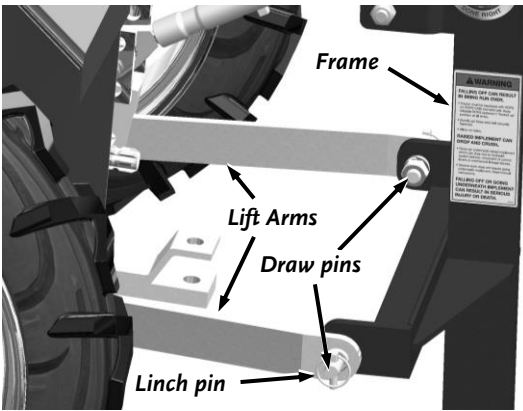

Figure 7
3. Slide the Lift Arms onto the Draw Pins and secure with the Linch Pins (**Figure 7**).